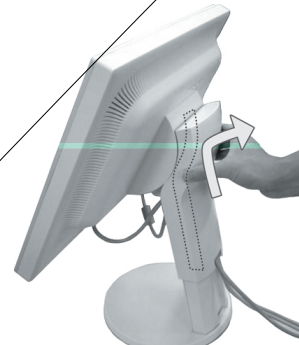

**Figure C.3**
- 7. Place the DVI cable into the specific hooks indicated in **Figure C.3**.
- 8. Make sure all cables are resting flat against the stand (**Figure C.3**).